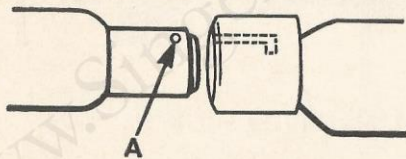

Fig. 4
**To replace lamp.** Press new lamp into socket with pin **A**, Fig. 4 entering